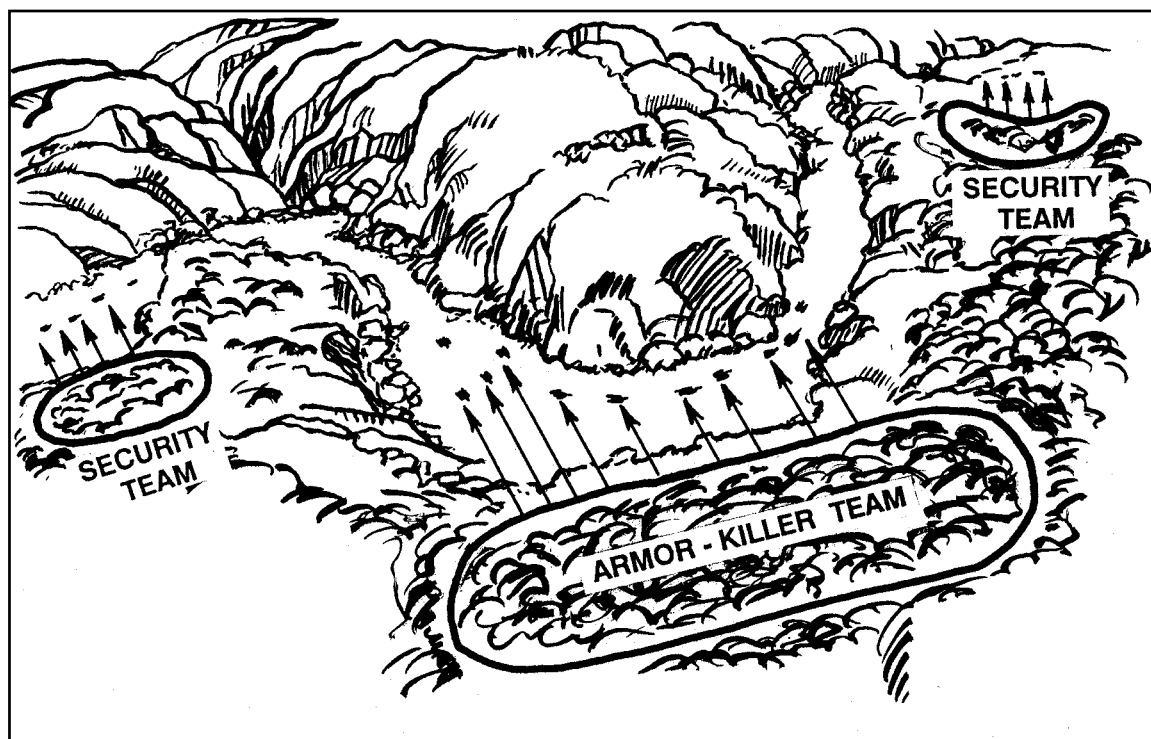

Figure 6-9. Antiarmor ambushes.
(1) **Ambushes (Antiarmor).** The commander can employ armor-killer teams either during limited visibility or when cover, concealment, and withdrawal routes are available. The key to ambushing armored or other vehicles is to choose terrain that restricts their maneuverability and fields of fire, but that allows friendly forces to engage the vehicles from the flank and rear. Soldiers can emplace antipersonnel mines before the ambush so that dismounting enemy soldiers deploy into them. Though light antiarmor weapons can be used independently, they are normally used in support of designated organic antiarmor weapons such as the Dragon. Volley firing light antiarmor weapons increases the probability of a quick kill (Figure 6-9). Security teams stop the enemy from escaping.